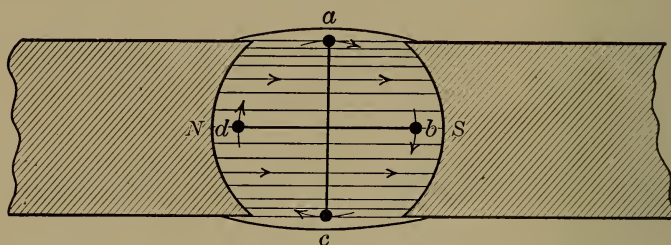

FIGURE 144.—CROSS SECTION OF SIMPLE A. C. GENERATOR.
**190. A. C. Simple Generator.** — Figure 144 shows a cross section of the simple generator. Since it is a cross section, the ends of the loop of wire, where it is cut off, are dots. In